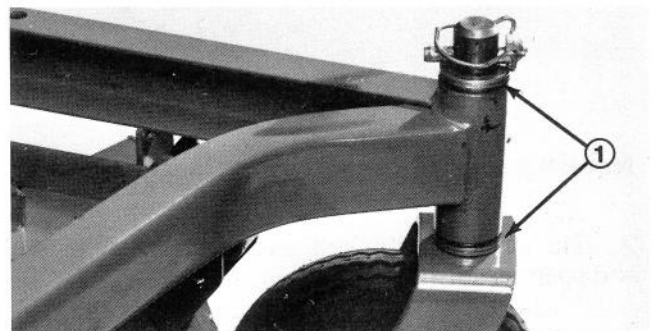

Figure 9
4. Insert pin punch into top or bottom of mounting tube and drive bushing out of tube (Fig. 9).